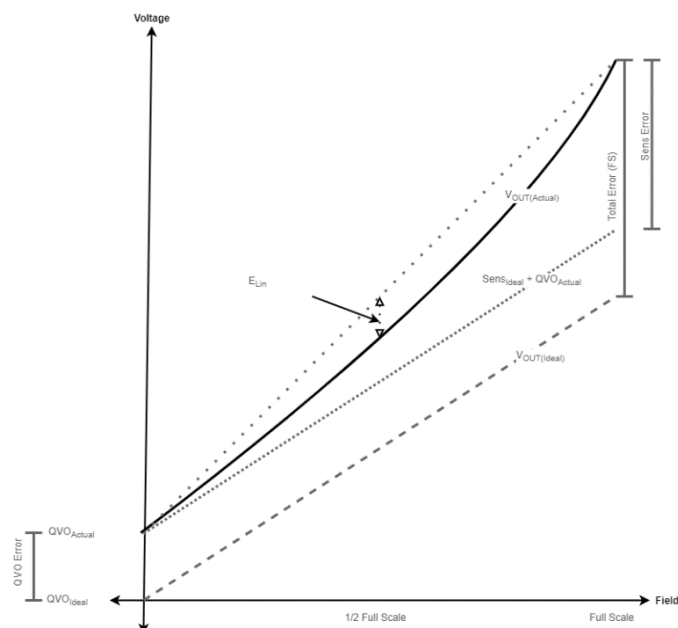

Figure 12: Accuracy Error
As the amount of field applied to the part changes, the sensitivity of the device can also change slightly. This is referred to as linearity error or E_{LIN} (see Figure 12). Consider two currents, I_1 (1/2 FS) and I_2 (FS). Ideally, the sensitivity of the device is the same for both fields. Linearity Error is calculated as the percent change in sensitivity from one field to another. Error is calculated separately for positive ($E_{LIN(+)}$) and negative ($E_{LIN(-)}$) currents, and the percent errors are defined as:
Total Output Error incorporates all sources of error and is a function of current. At relatively high currents, Total Output Error will be mostly due to sensitivity error, and at relatively low inputs, Total Output Error will be mostly due to Offset Voltage (V_{OE}). At $I = 0$ A, Total Output Error approaches infinity due to the offset. An example of total error at FS can be seen in Figure 12.